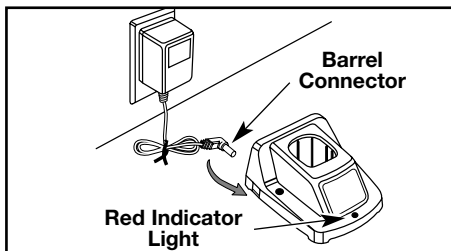

Fig. 4
See Figures 4 and 5.
2. Plug 12V charger into the wall outlet and its barrel connector into Charger Input of the charging stand (Fig. 4). Make sure the wall outlet is normal house voltage, 120 volts, 60 Hz, AC only.
5. When the red light is on (Fig. 4), the battery is being charged.